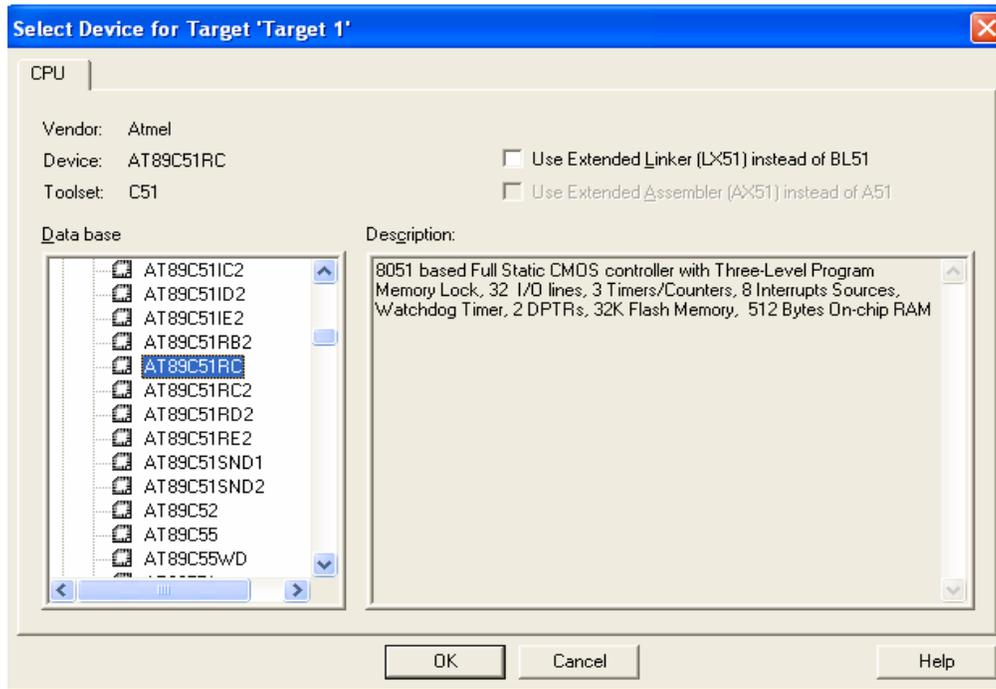

Figure 2: The target device window
3. Then another pop up window will appear as shown in Figure 2. This window allows you to select the target device. Here you have to select Atmel At89C51RC device.